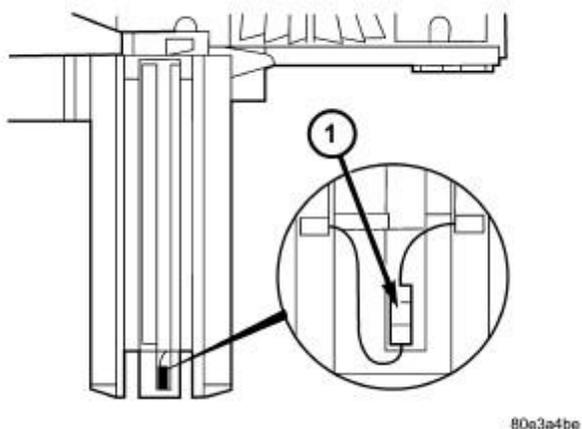

Fig. 157: Cutaway View Of Transmission Temperature Sensor
The temperature of the transmission oil has a considerable effect on the shifting time and therefore the shift quality. By measuring the oil temperature, shift operations can be optimized in all temperature ranges. The transmission oil temperature sensor (1) is switched in series with the park/neutral contact. Refer to **Fig. 157**. The temperature signal is transferred to the TCM only when the dry-reed contact of the park/neutral contact is closed in REVERSE or a forward gear position.